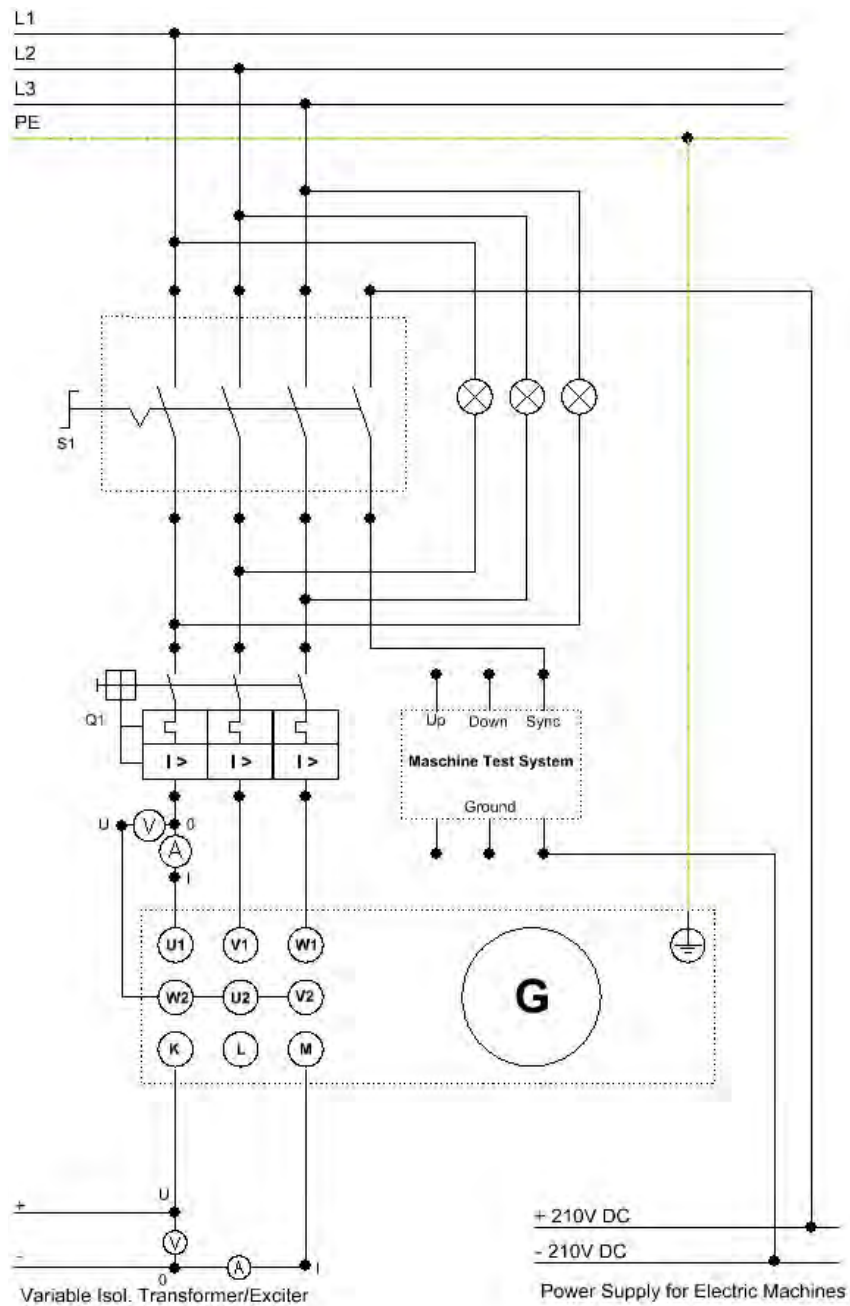

Figure 10:
1. Modify the circuit connection in accordance with the circuit diagram of Figure 10.